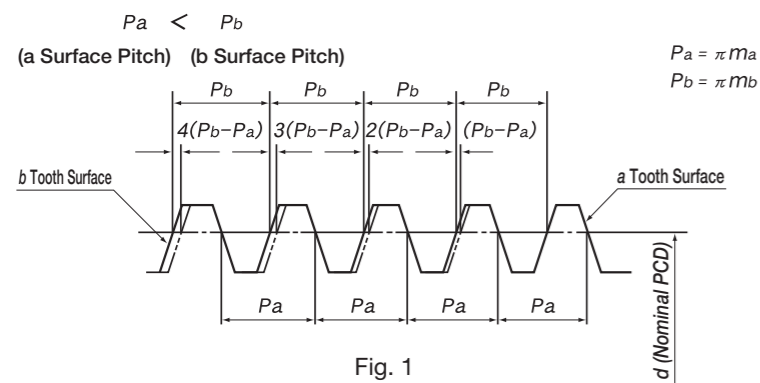

Fig. 1
- ① Gears are machined based on the ground section of the hole or shaft. If machining, it is important to pay special attention to locating the center in order to avoid runout. (Fig.1)
The dual-lead worm is formed to give a difference between the right tooth surface and left tooth surface so that it provides a unique tooth profile in which the tooth thickness varies continuously, corresponding with the lead difference. (Fig.1)